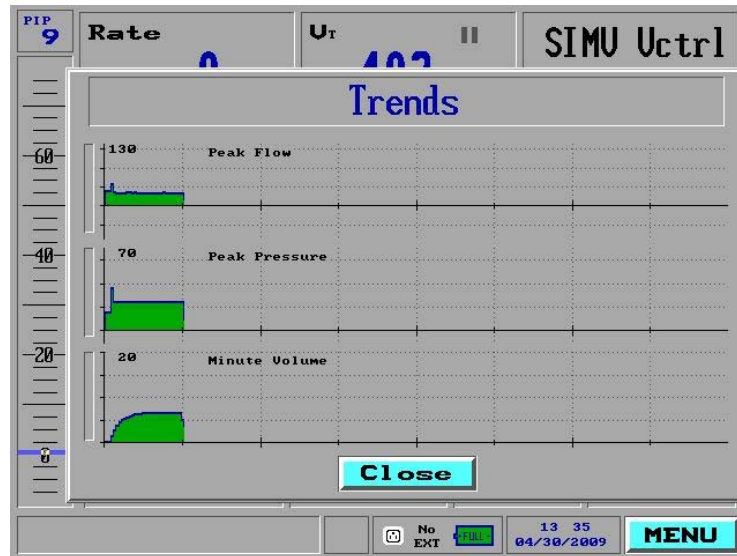

Figure 103: Trends Pop-Up Window in Standby Mode
3. If **Show Trends** is viewed while the ventilator is in **Standby Mode**, three Trends (default Trends shown are **Peak Flow**, **Peak Pressure**, and **Minute Volume**) appear in a pop-up window on the right side of the screen (Figure 103):